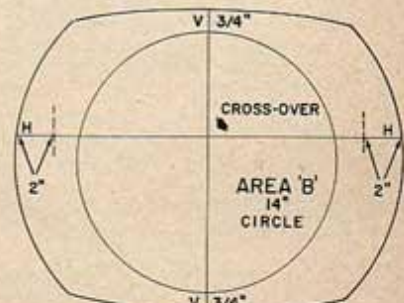

Fig. 2G. Acceptable convergence tolerances
11. Acceptable Convergence Tolerances: (See Fig. 2G)